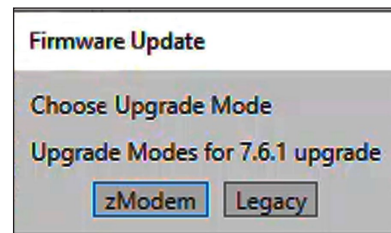

Figure 58. The Firmware Update dialog box.
STEP 11. When prompted, select the zModem option to perform the firmware update. See Figure 58.